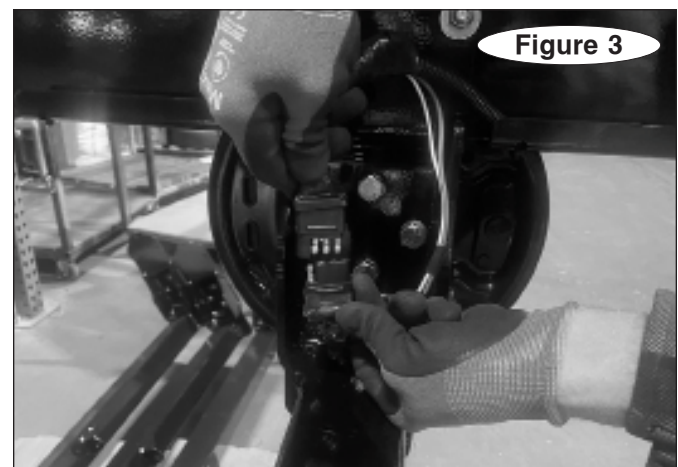

Figure 3
4. At both fenders, attach the electrical connectors (Figure 3).
5. Remove the pivot pin (Figure 3), and tilt the ramps to the ground.